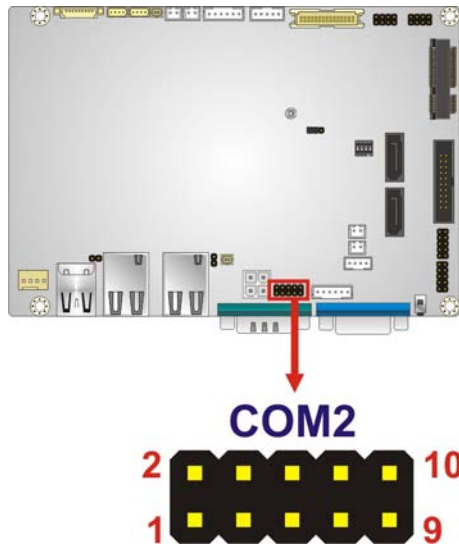

Figure 3-21: RS-232 Serial Port Connectors Location
- CN Location: See **Figure 3-21**